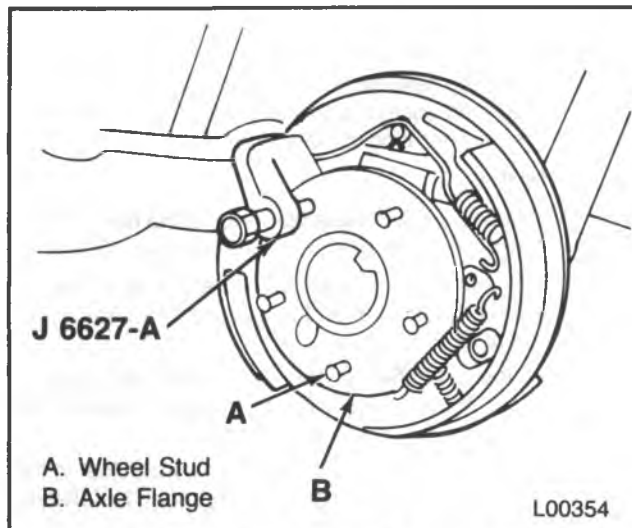

Figure 16 — Pressing Out Wheel Stud
Remove or Disconnect (Figure 16)
3. Stud (A) from the axle flange (B) using J 6627-A (figure 16).
1. Stud (A) in the axle flange (B) hole. Refer to figure 16.
- Start the new stud (A) into the axle flange (B) hole by pressing firmly with your hand.
- Tighten the wheel nut and draw the stud (A) head into the rear of the flange (B).